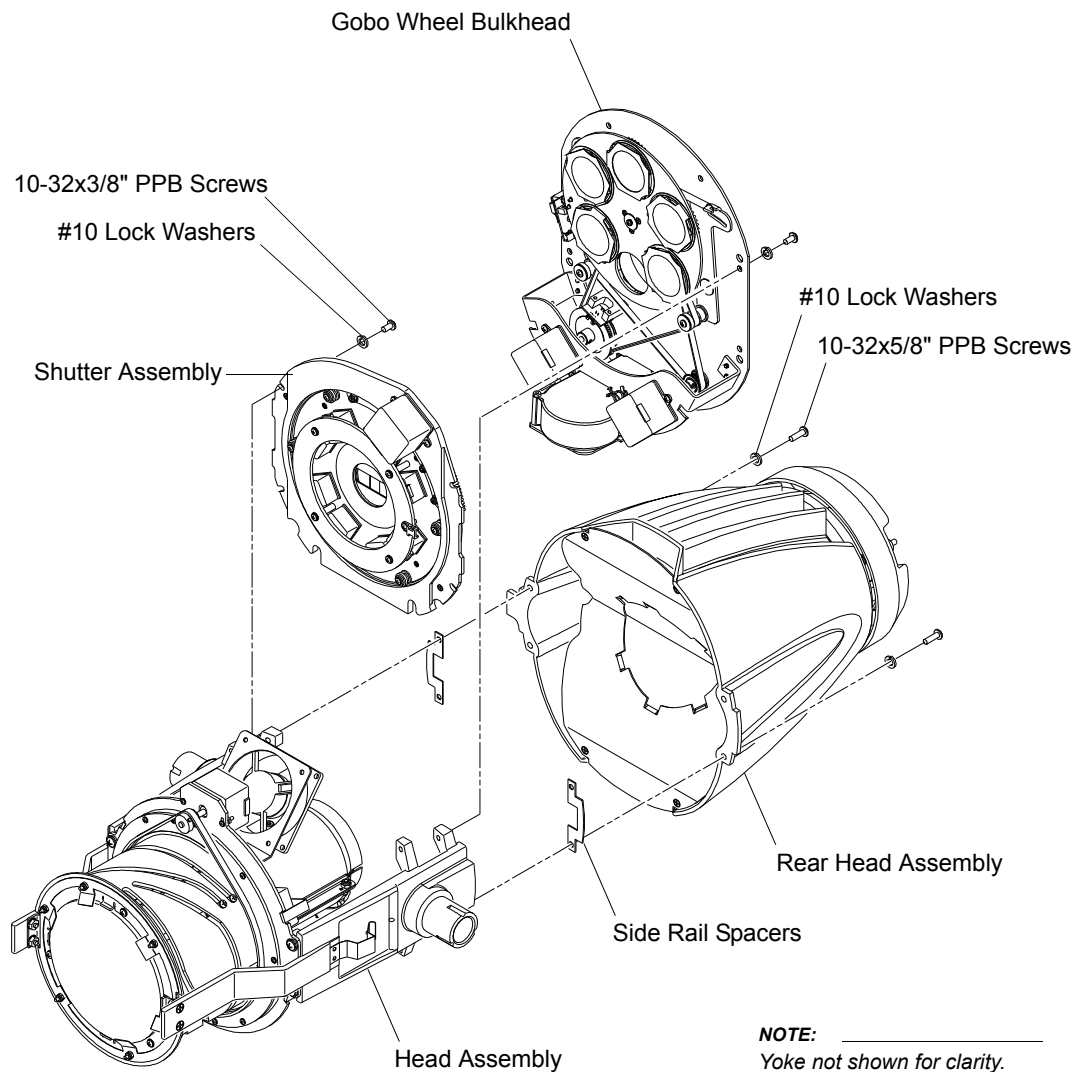

Figure 2-15: Shutter Assembly Replacement
Step 7. At side rails, remove four 10-32x3/8" PPB screws and #10 split-lock washers and remove shutter assembly (**Figure 2-15**).